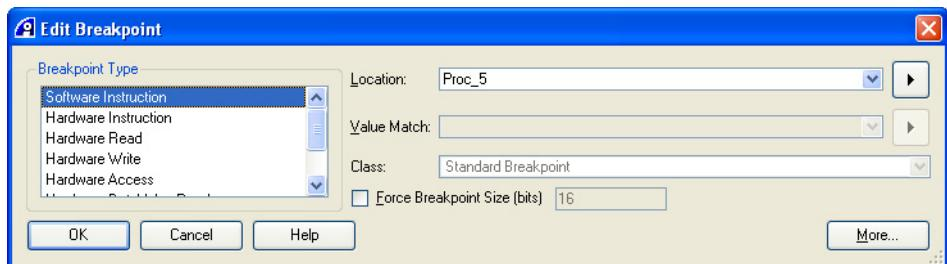

Figure 11-14 Edit Breakpoint dialog box
3. Select **Edit...** from the context menu to display the Edit Breakpoint dialog box. Figure 11-14 shows an example: